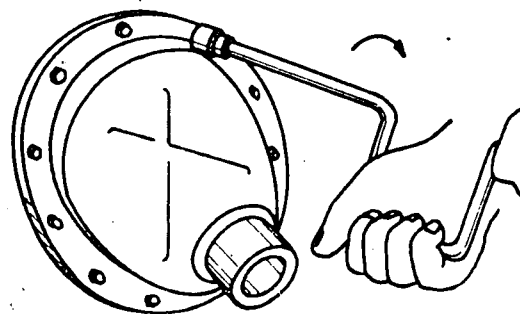

Fig. 6
- c) Replace the timing gear cover and install and tighten the screws (fig. 6).